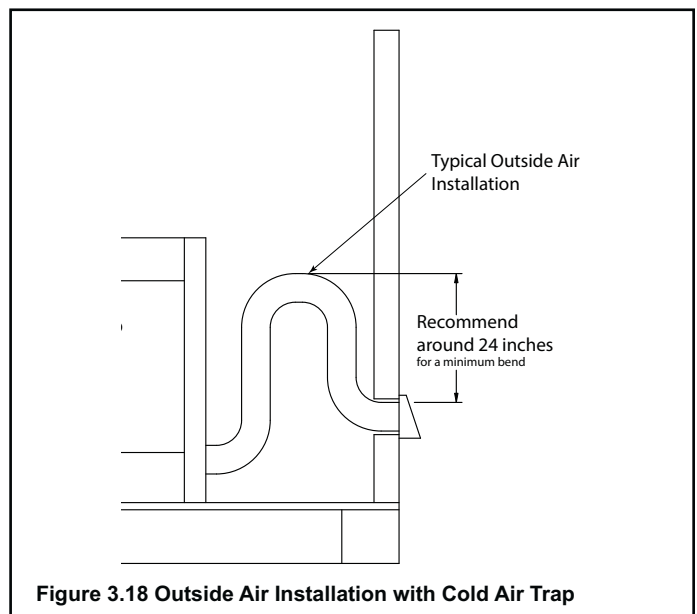

Figure 3.18 Outside Air Installation with Cold Air Trap
An outside air kit must be used for combustion. Hearth & Home Technologies recommends you utilize the shortest duct run and install a P-Trap (see Figure 3.18) to optimize the performance of the outside air kit with a maximum length of 40 ft. The outside air inlet hood should be positioned in a manner that will not allow snow, leaves, etc. to block the inlet. In some installations the air duct may need to be run vertically. In such an installation, a 3 ft (914 mm) height difference must be maintained from the top of the uppermost chimney section to the outside air inlet hood.
- ▶ Use 6 in. (152 mm) UL181 Class1 or Class 0 rigid or flexible ducting (not supplied) to directly connect outside air to fireplace intake. Insulate the pipe to prevent frost condensation. See Figure 3.18.